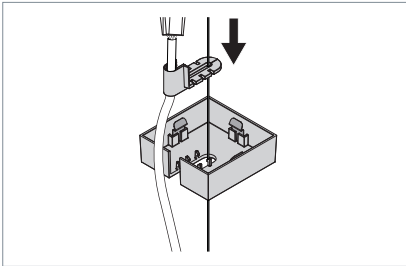

Fig. 18: Inserting the cable duct.
- ▶ Insert the cable duct into the ceiling rose, see Fig. 18.